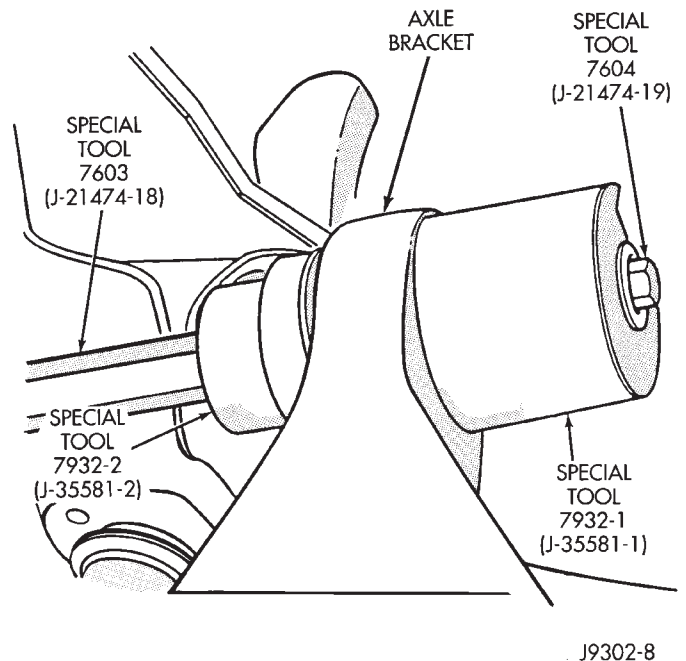

Fig. 6 Bushing Installation
- (1) Position new bushing, Receiver and Installer on axle (Fig. 6).